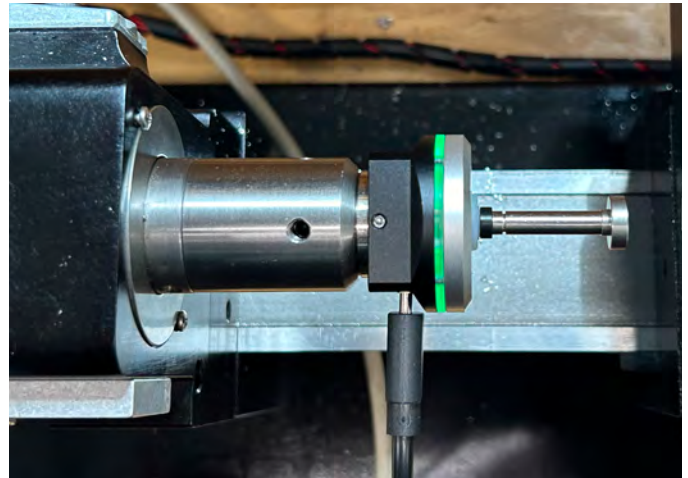

FIGURE 2
2. The touch probe is held in our 6mm end mill holder (P/N 3076) (see Figure 2).